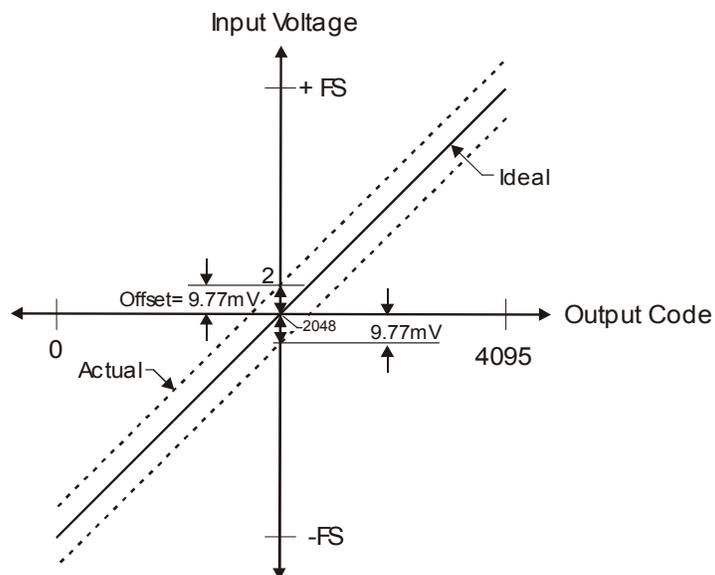

Figure 3-10. ADC transfer function with offset error
The 18200-10 offset error is measured at mid-scale. Ideally, a zero volt input should produce an output code of 2048. Any deviation from this is an offset error. Figure 3-10 shows the 18200-10 transfer function with an offset error. The typical offset error specification on the  $\pm 10$  V range is  $\pm 9.77$  mV. Offset error affects all codes equally by shifting the entire transfer function up or down along the input voltage axis.
**The accuracy plots in Figure 3-10 are drawn for clarity and are not drawn to scale.**